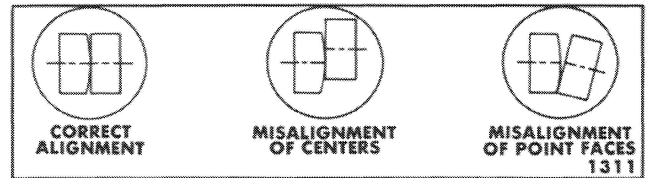

Figure 14—Breaker Point Alignment
2. Inspect the armature for a bent shaft or a rough commutator. Replace the armature if the shaft is bent. A rough commutator can be turned in a lathe or with a turning tool as shown in Figure 14.